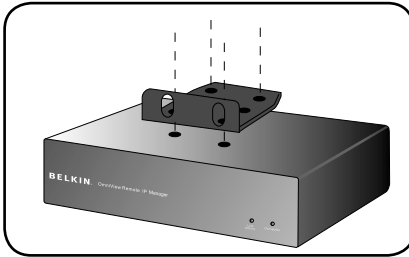

Fig. 1
- 1.2 Mount the RIPM to the rack. See **Fig. 1**.